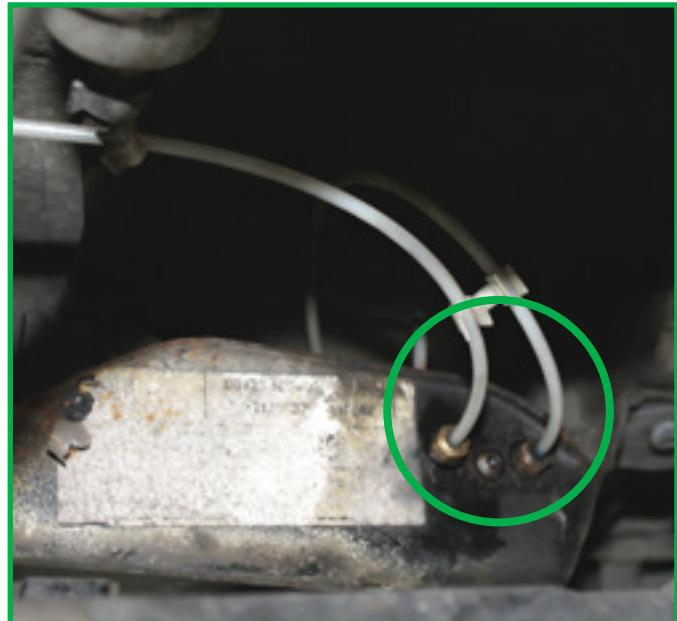

FIGURE 2
4. Disconnect the two (2) air lines from the compressor. (Figures 2, 3)